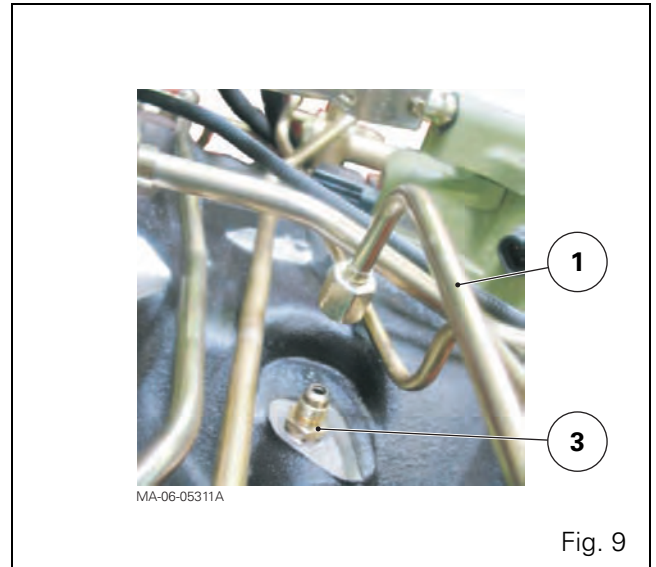
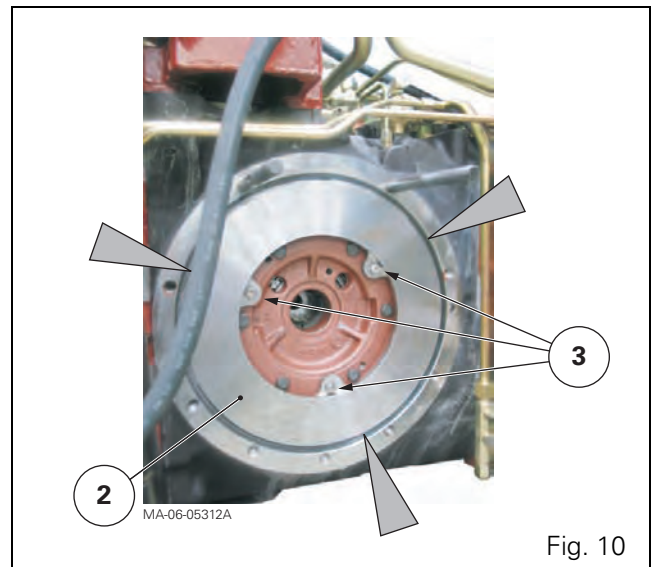

Fig. 9
Fig. 10
2. Disconnect the brake supply pipe (1) located above the centre housing (Fig. 9) that comes from the brake master cylinder.
NOTE: For tractors fitted with GTA1540 transmission (50 kph), the brake supply pipe (1) (Fig. 9) comes from the block/valves (1) fitted to the cab's front bulkhead (Fig. 3).
3. Using a manual hydraulic pump connected to the union (3) (Fig. 9), drive out the piston (2) from the centre housing (Fig. 10).
IMPORTANT 1: Do not drive out the piston (2) using a screwdriver as a lever on the rim of the centre housing marked with an arrow (Fig. 10) (risk of breaking the centre housing).
IMPORTANT 2: For tractors fitted with GTA1540 transmission (50 kph), monitor the piston as it exits its return travel limit mechanism (3) (Fig. 10).
IMPORTANT: For tractors fitted with GTA1540 transmission (50 kph), carefully monitor the fitting of the piston inside its return travel limit mechanism (3) (Fig. 10). If necessary, fit by gently tapping with a plastic hammer in diametrically opposed positions around the piston rim.